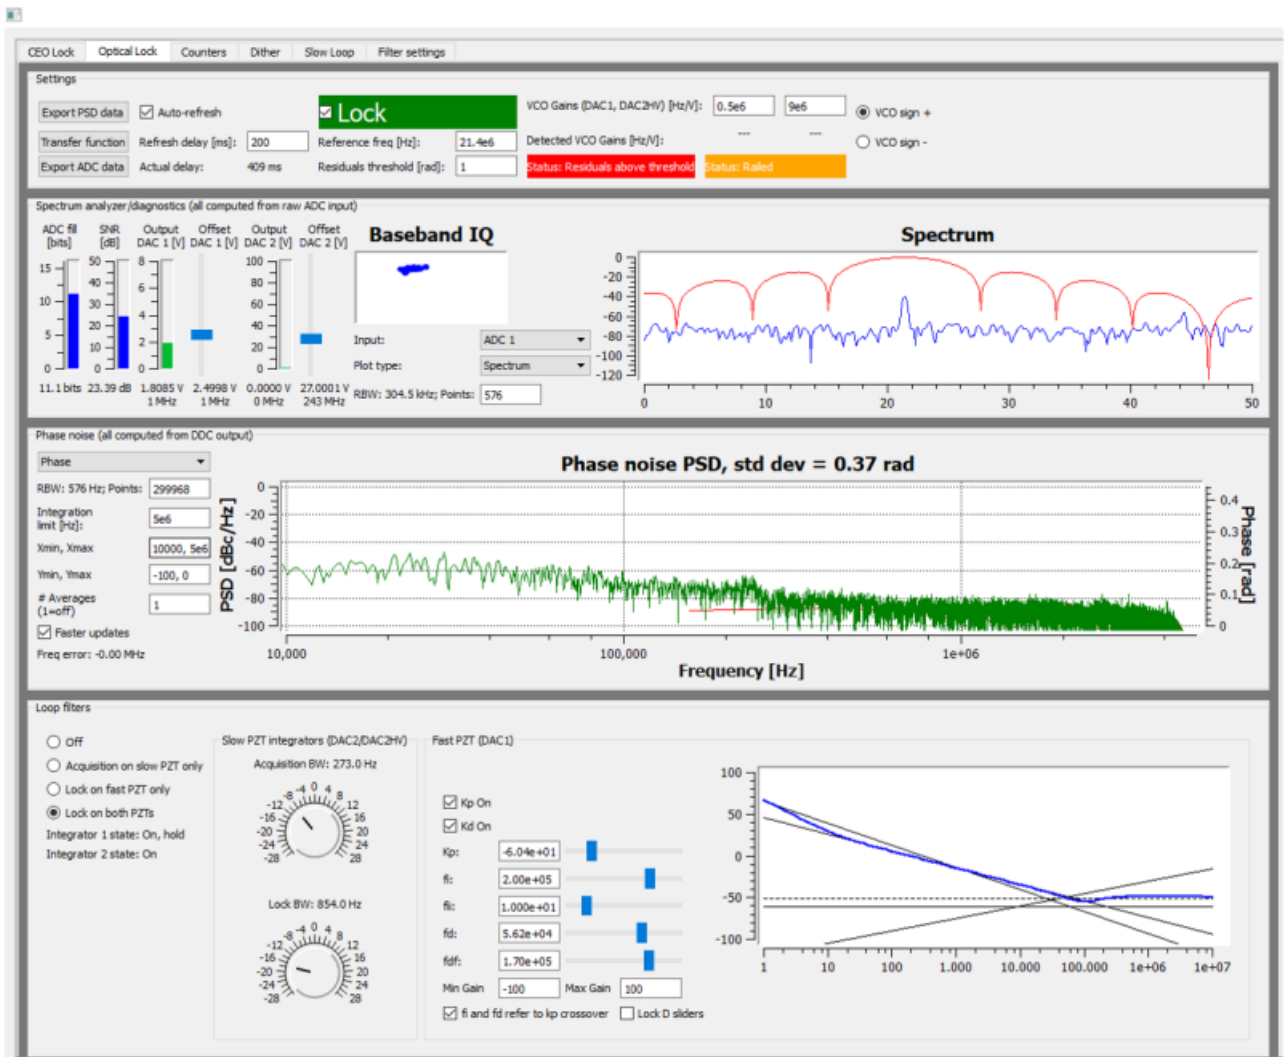

Fig. 8: Locking  $f_{opt}$
2. Press the "Lock" button (figure 8). If  $f_{opt}$  doesn't lock, change the VCO sign to the opposite polarity and try again. If the system continues to not lock, lower the  $K_p$  value.\
- Adjust PID settings (bottom middle of figure 8) accordingly to lower the integrated phase noise of each parameter ( $f_{CEO}$  and  $f_{opt}$ ). The default settings provided in the software are a good place to start but tweaking the values can often improve performance.